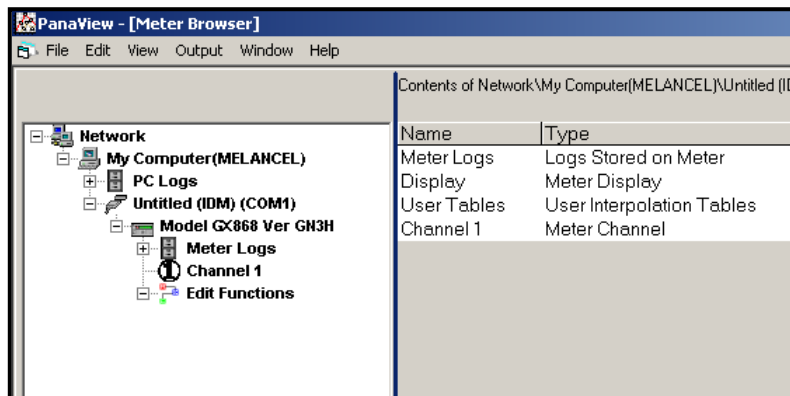

Figure 35: *New Meter Browser* with Meter Branch
3. Then expand the meter tree as shown in *Figure 35* below.